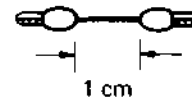

Fig. 3-2B Shorting clip
- 6) Shorting Clip for detector transformer (Fig. 3-2B).
- 1) In the same condition as before, short TP-10 and TP-11 with shorting clip on Fig. 3-2B.